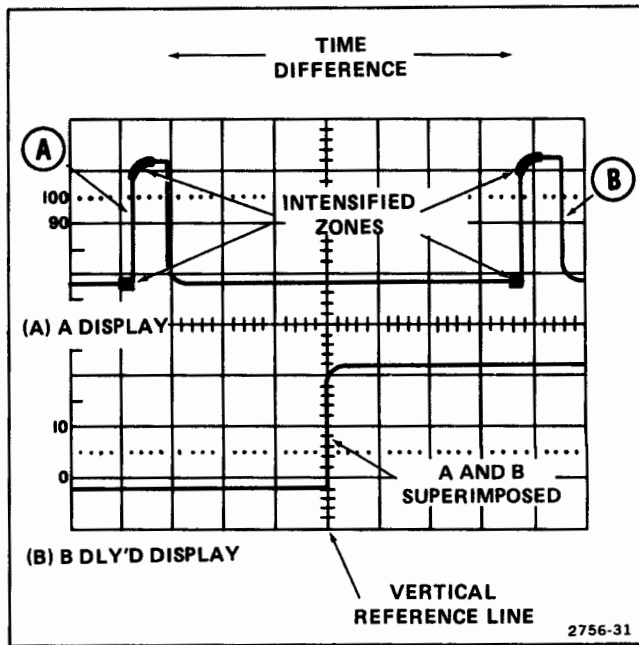

Figure 27. Time difference between repetitive pulses.
**STARTS AFTER DELAY.** For the most accurate measurement, set the B TIME/DIV switch to the fastest sweep that provides usable (visible) intensified zones. Use the DELAY TIME POSITION control to move the intensified zone to the first pulse (see Figure 27, A Sweep Display).
3. Observe the B Sweep display and adjust the DELAY TIME POSITION control to move the rising portion of the pulse to a vertical reference line (see Figure 27, B Sweep Display).
**EXAMPLE:** The first dial setting is 1.31 and the second dial setting is 8.81 with the A TIME/DIV switch set to  $0.2 \mu\text{s}$  (see Figure 27).